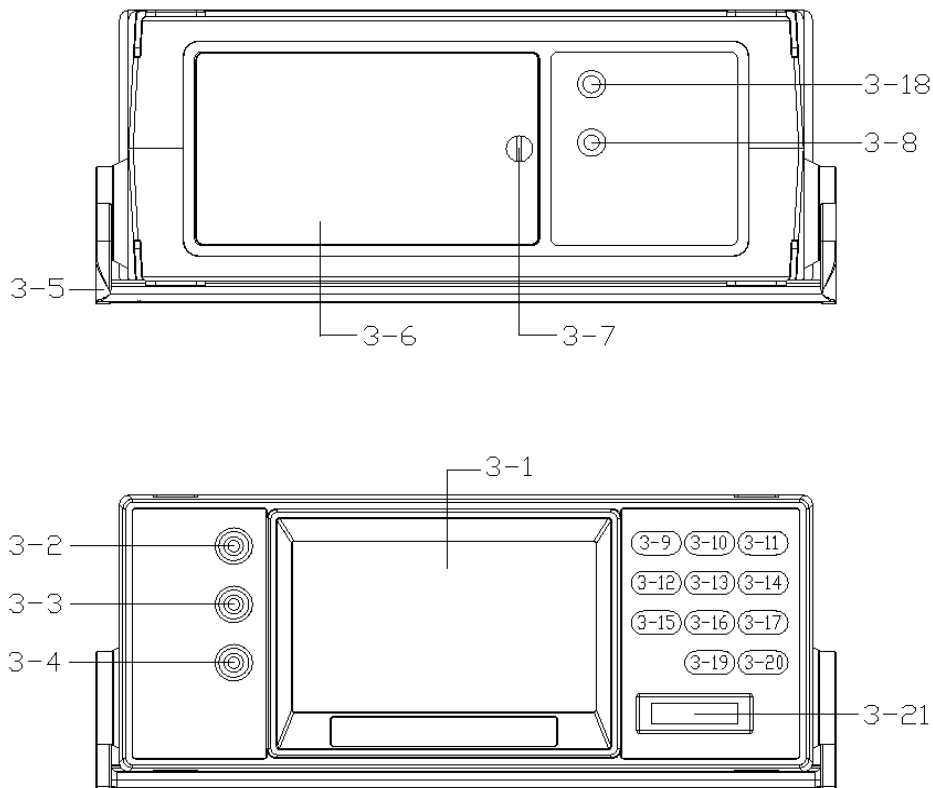

Fig. 1
- 1) : Connect BLACK test lead into " - " terminal (3-3, Fig. 1).
- 2) : Connect RED test lead into " + " terminal (3-2, Fig. 1).
- 3) : Press the " Function Button " (3-12, Fig. 1) Select to the " DCR " Function.
- 5) : Under the operation of " auto range " mode, short press the " Range Button " (3-15, Fig.1) select to the Manual Range ,Manual Range can select 600Ω, 6KΩ, 60KΩ, 600KΩ, 6MΩ, 20MΩ, LCD will show the " MANU " marker, and Under the manual range operation, press and hold the " Range Button " (3-15, Fig.1) > 2 seconds, will return to auto range operation.
- 3) : Press the " Function Button " (3-12, Fig. 1) Select to the " Z " Function.
- 7) : Use the " SER/PAL" key(3-10, Fig,1) short press to select the " serial " mode or "parallel" mode measurement.
- 3) : Press the " Function Button " (3-12, Fig. 1) Select to the " C" Function.
- 5) : Under the operation of " auto range " mode, short press the " Range Button " select to the Manual Range ,Manual Range can select 600p,6nF,60nF,600nF, 6uF,60uF,600uF,6000uF .LCD will show the " MANU " marker, and Under the manual range operation, press and hold the " Range Button " (3-15, Fig.1) > 2 seconds, will return to auto range operation.
- 7) : Use the " D/Q/θ button " (3-11, Fig. 1) short press to select the " D " or "Q "measurement, or "θ "measurement, or " R "measurement.
- 8) : Use the " SER/PAL" key(3-10, Fig,1) short press to select the " serial " mode or "parallel" mode measurement.
- 3) : Press the " Function Button " (3-12, Fig. 1) Select to the " L " Function.
- 5) : Under the operation of " auto range " mode, short press the " Range Button " select to the Manual Range ,Manual Range can select 6mH,60mH,600mH, 6H,60H,200H .LCD will show the " MANU " marker, and Under the manual range operation, press and hold the " Range Button " (3-15, Fig.1) > 2 seconds, will return to auto range operation.
- 7) : Use the " D/Q/θ " button " (3-11, Fig. 1) short press to select the " D " or "Q "measurement, or "θ "measurement, or " R "measurement.
During the measurement, press the " Hold Button " (3-19, Fig. 1) once will hold the measured value & the LCD will display a " HOLD " symbol. Press the " Hold Button " once again will release the data hold function.
- 1) The data record function records the maximum and minimum readings. Press the " REC Button " (3-13, Fig. 1) once to start the Data Record function and there will be a " REC " symbol on the display.
- a) Press the " REC Button " (3-13, Fig. 1) once, the " REC MAX " symbol along with the maximum value will appear on the display.
- b) Press the " REC Button " (3-13, Fig. 1) again, the " REC MIN " symbol along with the minimum value will appear on the display.
- c) Press the " REC Button " (3-13, Fig. 1) again, the " MIN " symbol will be disappeared, LCD only show the " REC " symbol, the meter start the Data Record function again.
- 3) To exit the memory record function, just press the "REC Button " (3-13, Fig. 1) > 3 seconds continuously. The display will revert to the current reading.
- 1) After power ON, the " LCD Backlight " will light automatically. During the measurement, Push the "Backlight Button " (3-16, Fig. 1) once , will turn OFF the " LCD Backlight ".
Prepare a " SD memory card " (4G to 32G, optional), insert the SD card into the " SD card socket " (3-21, Fig. 1).
Press the " LOG Button (3-20, Fig. 1) > 3 seconds continuously, the upper LCD will show the text of "Logger "then "Logger " symbol will flashing per sampling time, at the same time the measuring data along the time information will be saved into the memory circuit.
During execute the Datalogger function, if press the "LOG Button " (3-20, Fig. 1) once will pause the Datalogger function (stop to save the measuring data into the memory circuit temporally). In the same time the " Logger " symbol will stop flashing, the upper LCD will show the text of " Logger ".
If press the " LOG Button " (3-20, Fig. 1) once again will execute the Datalogger again, the " Logger " symbol will flashing.
During execute the Datalogger function, press the " LOG Button (3-20, Fig. 1) > 3 seconds continuously again will finish the Datalogger function, the " Logger " text will be disappeared and finish the Datalogger.
Press the " LOG Button (3-20, Fig. 1) > 3 second , the LCD will show the " Position no. " , then press the " LOG Button " (3-20, Fig. 1) once, the " Logger " symbol will flashing once and Beeper will sound once, at the same time the measuring data along the time information will be saved into the memory circuit.
During execute the Manual Datalogger, it can use the " ▲ Button " (3-13, Fig. 1) or " ▼ Button " (3-19, Fig. 1) to set the measuring position (1 to 99, for example room 1to room 99) to identify the measurement location , the Display will show P x (x = 1 to 99).
During execute the Datalogger function, press the " LOG Button (3-20, Fig. 1) > 3 seconds continuously again will finish the Datalogger function.